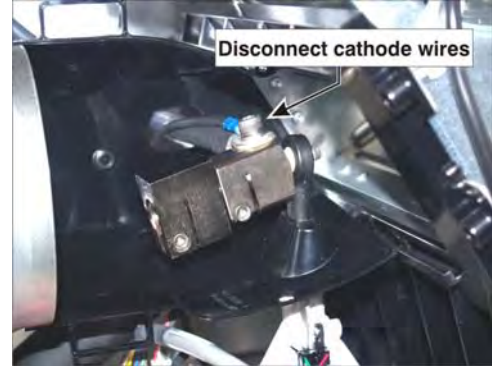

Figure 5-50 Cathode Nut
5. Disconnect the two cathode wires from the cathode nut (one 4 mm hex screw) (**Figure 5-50**).